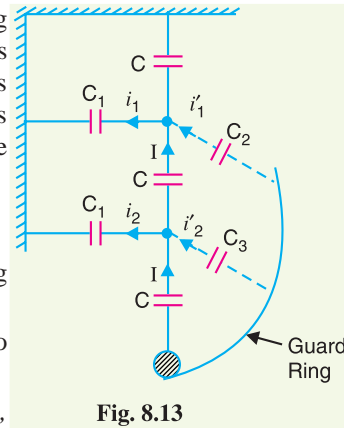

Fig. 8.13
- (iii) **By using a guard ring.** The potential across each unit in a string can be equalised by using a guard ring which is a metal ring electrically connected to the conductor and surrounding the bottom insulator as shown in the Fig. 8.13. The guard ring introduces capacitance be-